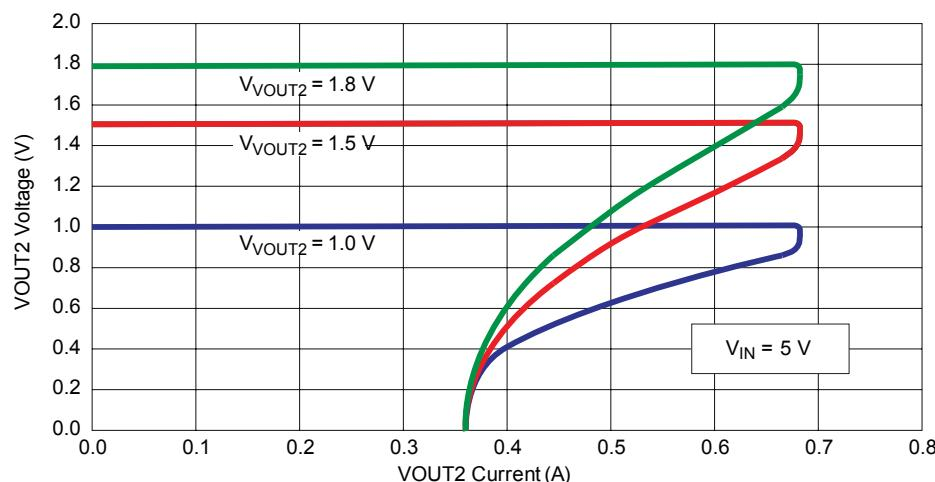

Figure 3. Linear current limit with foldback
**Internal Configuration** When the internal pass element is configured the internal current limit is fixed at  $I_{CL2}$ . The regulator has overcurrent protection with foldback. Figure 3 shows the  $I \cdot V$  characteristic of the linear regulator.
**External Configuration** When the external pass element is configured the current is adjustable by selecting the value of a current limit resistor  $R_{CL2}$ . When the voltage across the resistor equals  $V_{CL2}$  the regulator enters current limit and will fold back according to the waveform shown in figure 3. To calculate the current limit use the formula below: